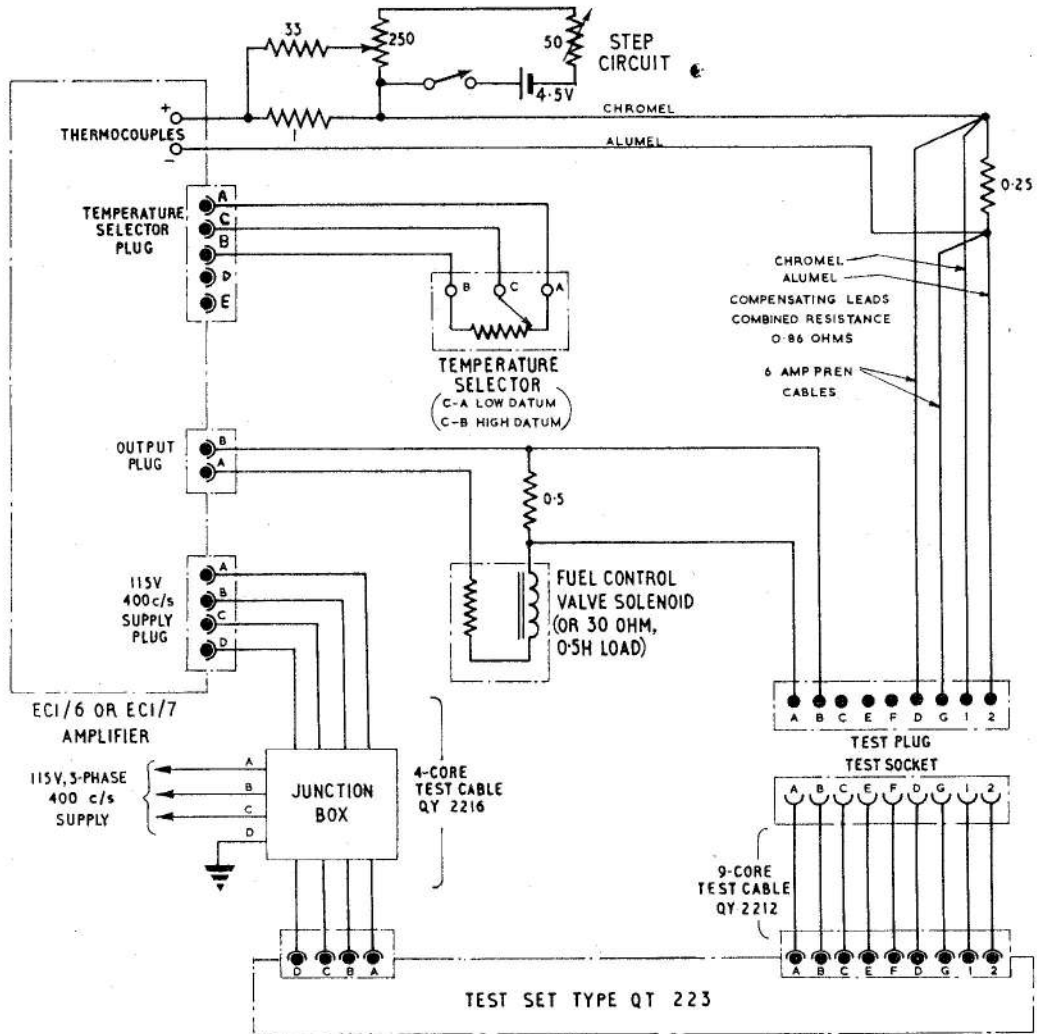

Fig. 4. Bench test circuit
- (1) Test set, Ultra, Type QT223.
- (2) Nine-core test cable, Type QY2212.
- (3) Four-core test cable, Type QY2216.
- (4) A bench test rig made up as shown in fig. 4.
- (5) A 115V 3-phase, 400 c/s, supply.
- (6) Stop watch.
- (7) Temperature selector plug.
connect the commoning terminals to the test plug, similar leads must be used in the test rig. These leads must be made from Chromel and Alumel as shown in fig. 4.
(1) Adjust the temp. signal controls to give 350mA (true reading) on METER II.
(2) Switch in Step Circuit (fig. 4) and adjust Step Circuit control potentiometers to reduce METER II reading to 50mA (true reading).